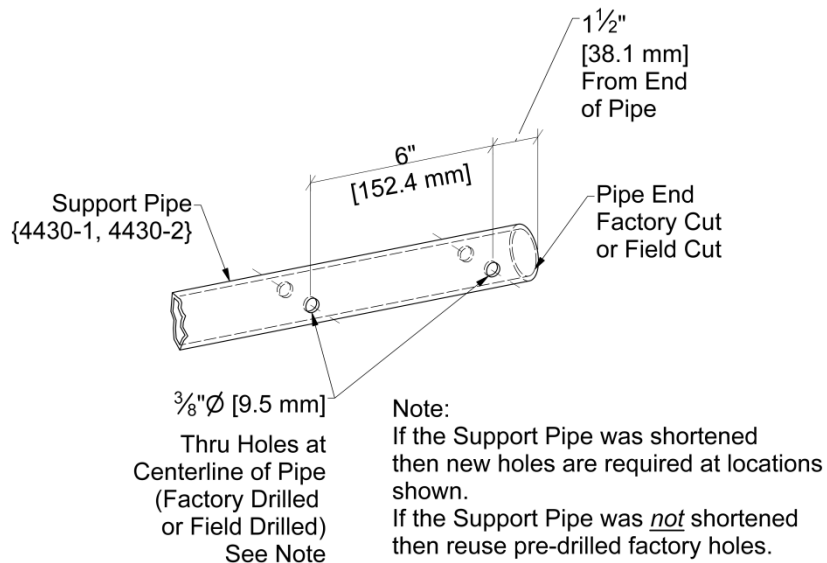

Figure 3
Step 2: Drill (2) 3/8"Ø [9.5 mm] in each *shortened* Support Pipe per Figure 3 below.